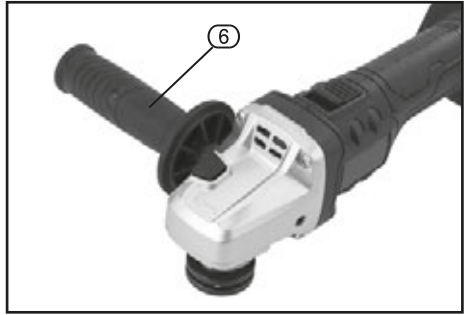

FIG.1
9.1 FITTING AUXILIARY HANDLES - FIG. 1